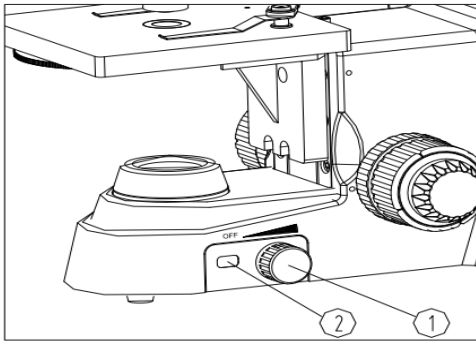

Fig.7
1. Put through the power and adjust the light adjustment knob 1 until the illumination is comfortable for observation. Rotate the light adjustment knob in clockwise to raise the voltage and brightness. Rotate the light adjustment knob in counterclockwise to lower the voltage and brightness (see Fig.7).